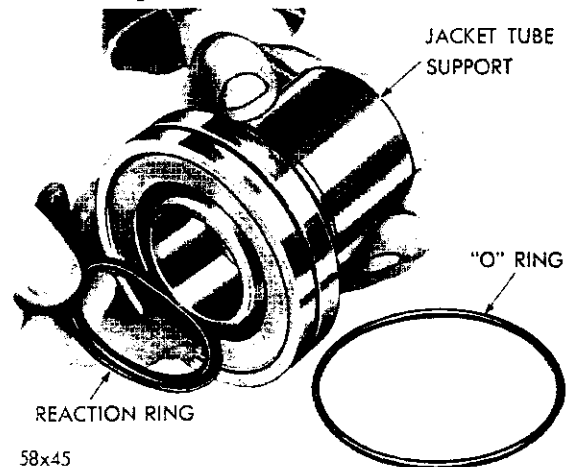

Fig. 38—Installing the Reaction Seal into the Jacket Support
(2) Lubricate and install the reaction seal in the groove in the face of the column jacket support with the flat side of the seal out (Fig. 38).